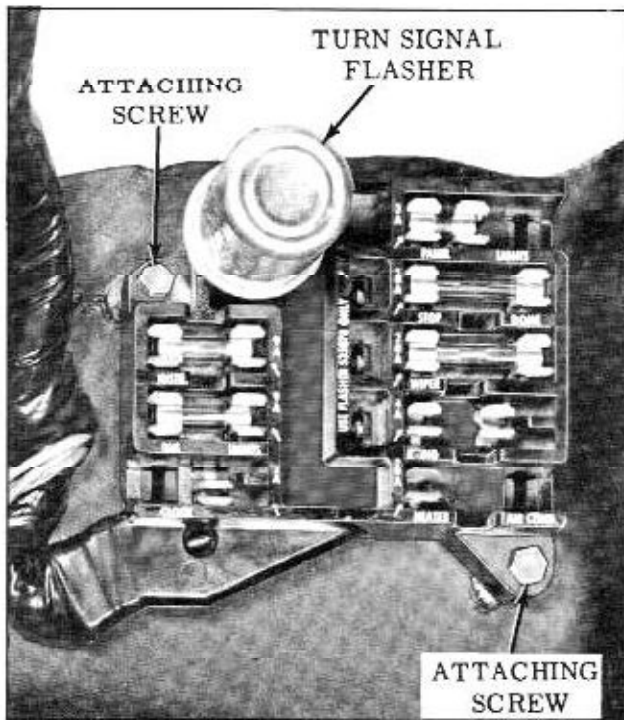

Fig. 13-2 Fuse Panel
3. Remove the two sheet metal mounting screws, (Fig. 13-2)
2. Mount the panel on the cowl using two sheet metal screws. (Fig. 13-2)
1. Mount fuse panel on cowl. (Fig. 13-2)